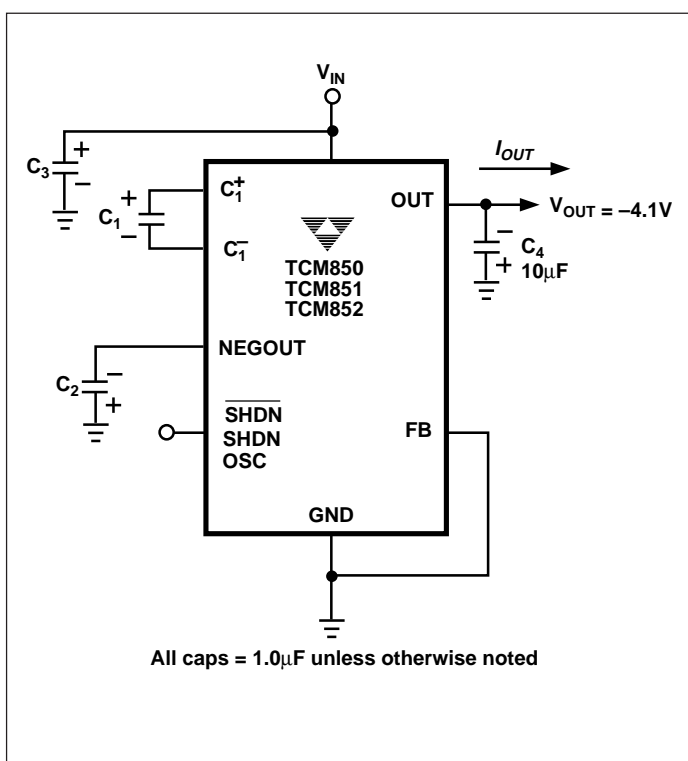
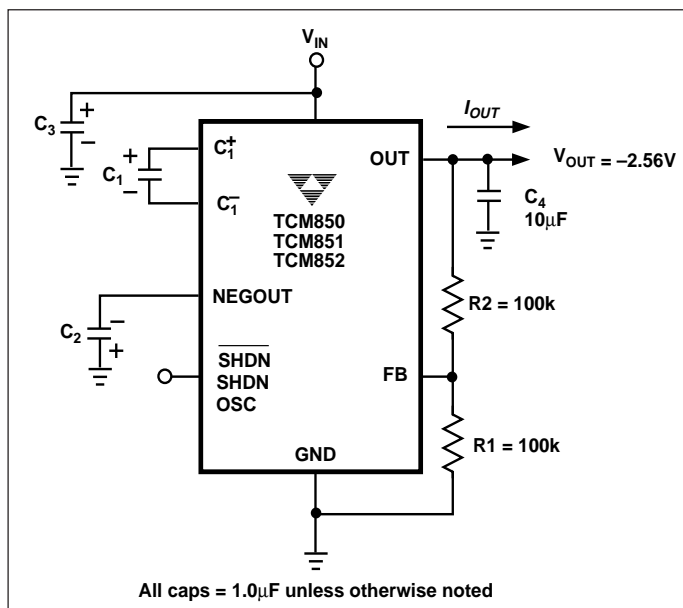

Figure 3. TCM850/851/852 Standard Application
Figure 4. TCM850/851/852 Adjustable Application
3.  $I_{OUT} = 0\text{mA}$  or 5mA. Reference Figures 3 and 5.
The TCM850/1/2 operate in the fixed output voltage mode ( $V_{OUT} = -4.1V$ ) when the FB input is grounded (Figure 3). The output voltage can be adjusted by connecting FB to the midpoint of a resistive voltage divider from OUT to GND (Figure 4). Care must be taken to allow a minimum of 1.0V across the linear regulator for proper regulation. The output voltage is calculated using the formula below ( $R_2$  should be chosen to be between 100k $\Omega$  and 400k $\Omega$ ):